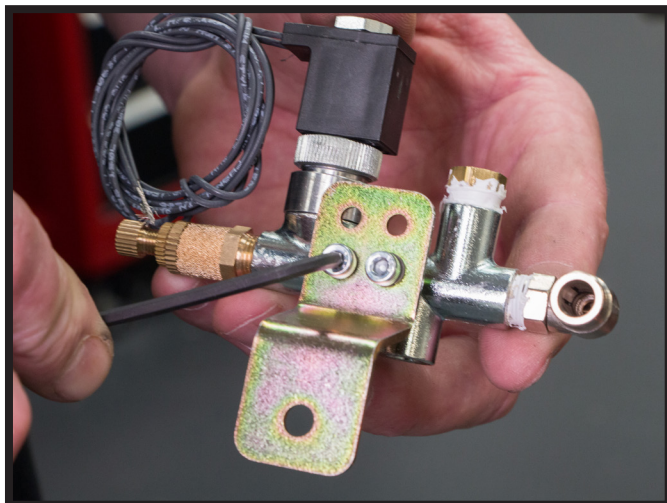

FIGURE 31
14. MOUNT THE MANIFOLD BRACKET TO THE MANIFOLD. CUT THE ¼ INCH HOSE TO LENGTH THEN INSERT IT INTO THE MANIFOLD. USING THE SUPPLIED SCREW AND WASHER MOUNT THE MANIFOLD TO THE SIDE OF THE BATTERY BOX. (FIGURES 31, 32)